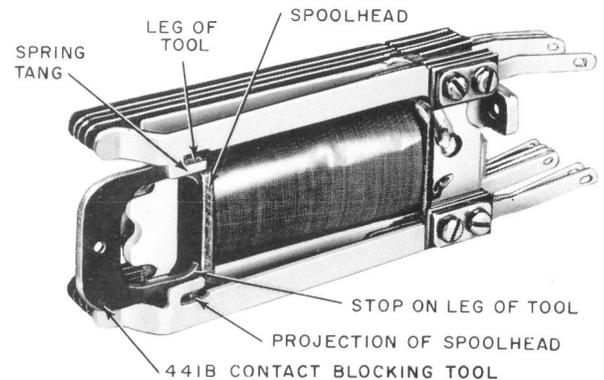

Fig. 36—Blocking EA41 Relay for Cutover Purposes
(4) **EA41 Relay:** Fig. 36—Using the 441B